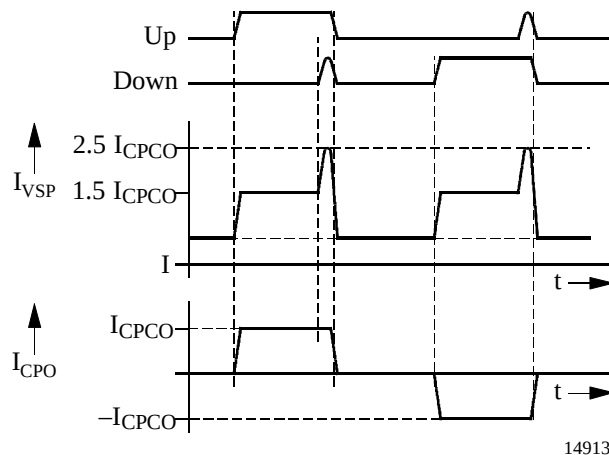
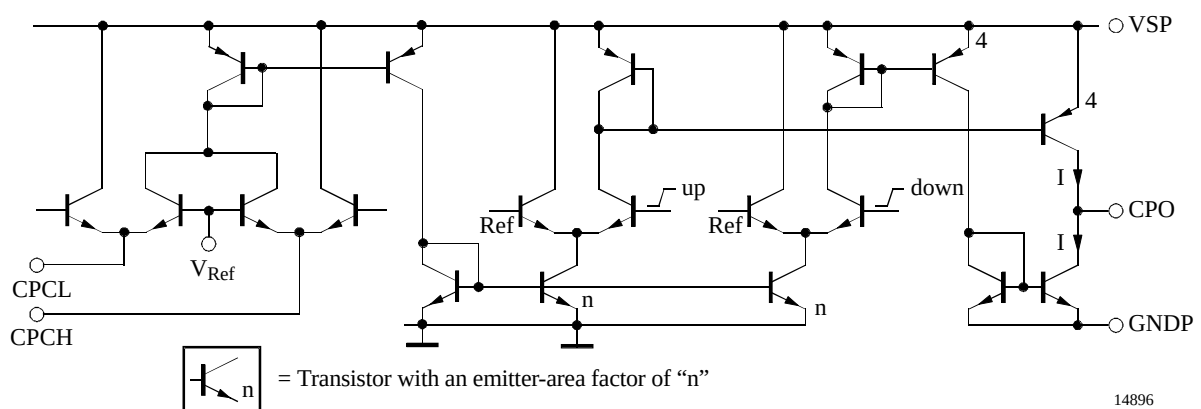

Figure 3. Supply current of the charge pump
Figure 6. Charge pump
- 1) Mean value, measured with $F_{ND} = 151$ MHz, $F_{RD} = 150$ MHz, current vs. time, figure 3
Due to the pulsed operation of the charge pump, the current into the charge-pump supply Pin VSP is not constant. Depending on I (see figure 6) and the phase difference at the phase-detector inputs, the current I_{VSP} over time varies. Basically, the total current is the sum of the quiescent current, the charge-/discharge current, and – after each phase comparison cycle – a current spike (see figure 3).